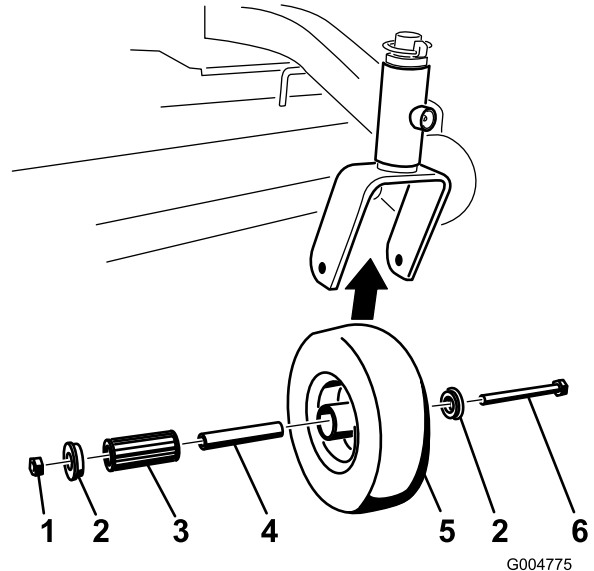

Figure 34
1. Remove the locknut and wheel bolt holding the caster wheel to the caster fork (Figure 34).
2. Remove 1 bushing, then pull the spanner bushing and roller bearing out of the wheel hub (Figure 34).
3. Remove the other bushing from the wheel hub and clean any grease and dirt from the wheel hub (Figure 34).
4. Inspect the roller bearing, bushings, spanner bushing, and inside of the wheel hub for wear; replace any defective or worn parts (Figure 34).
6. Place the second bushing into the wheel hub (Figure 34).
8. Tighten the locknut until the spanner bushing bottoms against the inside of the caster forks (Figure 34).